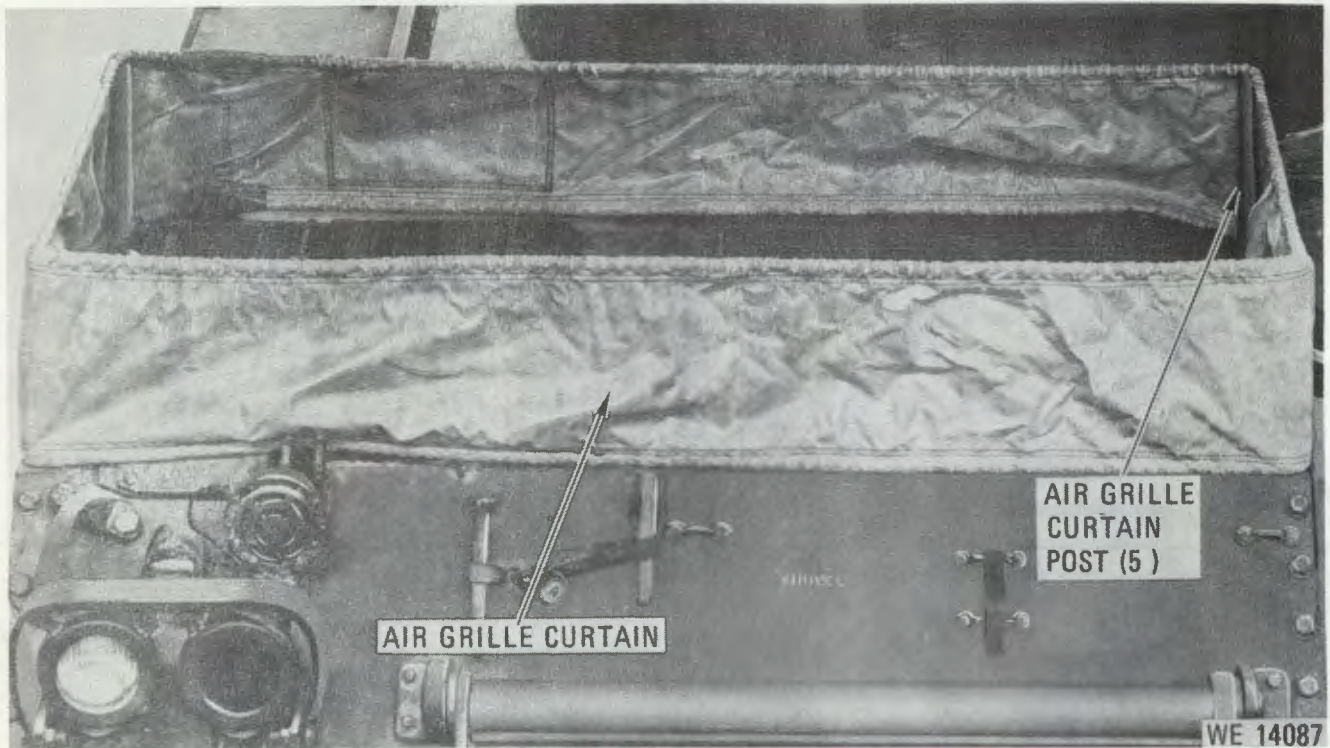

Figure 2-46. Air grille curtain-installed.
(10) Install air grille curtain (fig 2-46) as follows:
(2) Start bilge pumps; when bilge is clear of water, stop bilge pumps.
(3) Flush all areas of vehicle or components with fresh water after operating in salt water.
(4) Remove air grille curtain (fig 2-46) as follows: